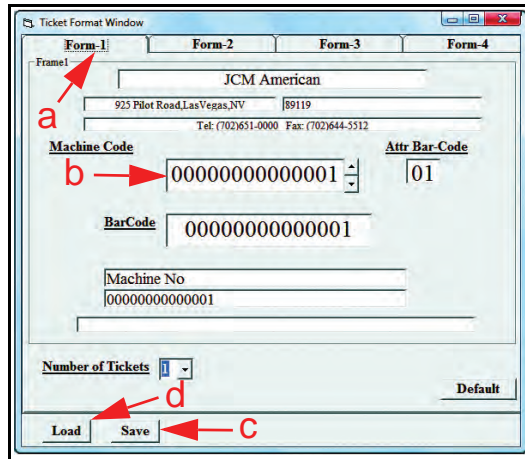

Figure 4 Ticket Format Form-1 Screen
5. The Ticket Format Window shown in Figure 4 on Page 6 will open and the TXData / RX Data Windows will show activity if the printer is properly connected.
The Ticket Format Window shown in Figure 4 allows the customer to personalize the desired Ticket with the Casino Name, Address, and other pertinent information.
- The **“Form-1”** Tab is used to print a single Asset (Machine No.) Ticket (See Figure 4 a).
- The **“Machine Code”** Window (See Figure 4 b) allows entry of a fourteen digit number to uniquely identify each ICB related machine. This number can reflect location, the asset number or whatever information the customer chooses.
- The **“Save”** Screen Button  (See Figure 4 c) allows the property information entered to be stored for future retrieval.
- The **“Load”** Screen Button  (See Figure 4 d) allows retrieval of property information from a previously created file.